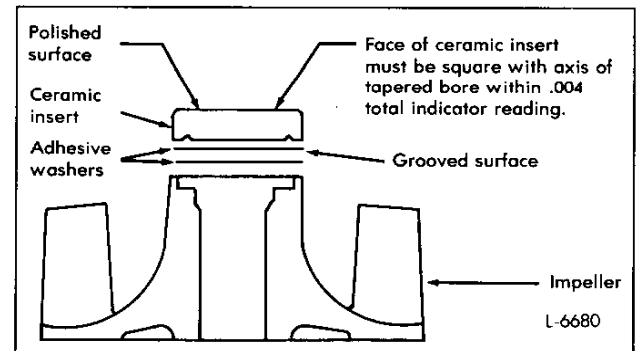

Fig. 6 – Insert, Adhesive Washer, Impeller Stackup
3. Place two (2) adhesive washers in the impeller bond area with the ceramic insert on top. The polished face of the ceramic insert should be visible to the assembler (Fig. 6).